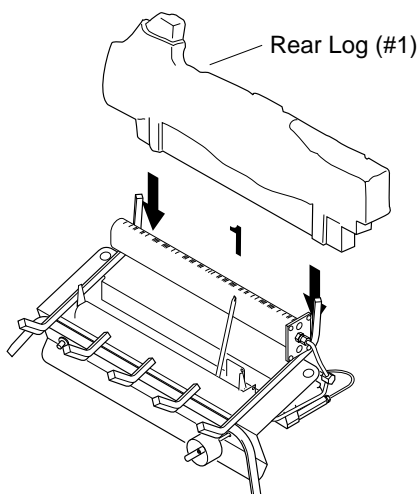

Figure 35 - Installing Rear Log
1. Slide rear log (#1) into place behind rear burner. Make sure flat areas at bottom of log are behind rear burner (see Figure 35).